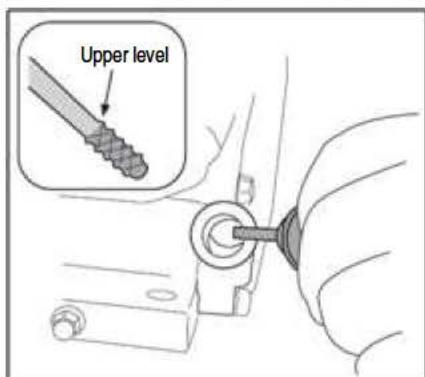

Figure 22
1. Remove the oil filler cap/dipstick and wipe the dipstick clean. See figure 22.